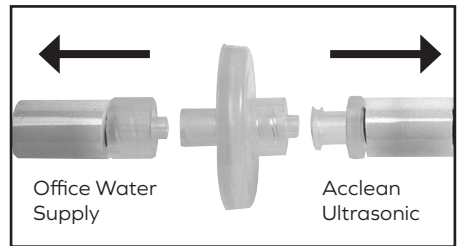

Fig. 5
- Install replacement filter onto water supply tube as shown in Figure 5.